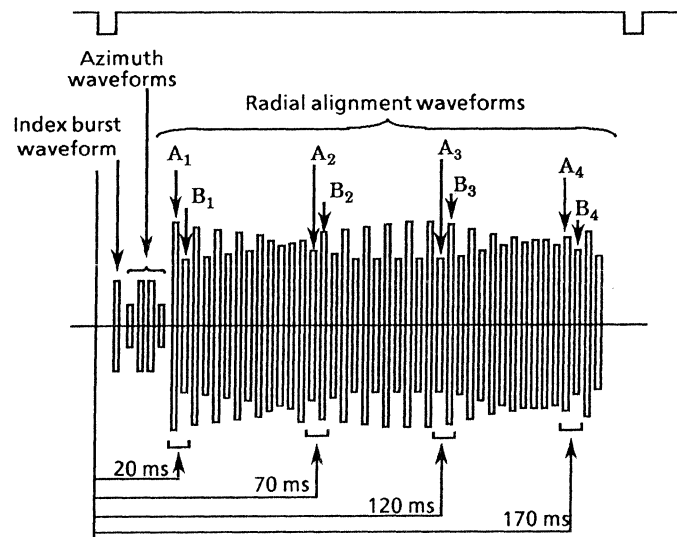

Fig. 9.3 Alignment Waveform (DAD)
- (4) Watch the output waveforms for sides 0 and 1. They should appear as shown in Fig. 9.3.
- (5) Measure the timing levels A₁ to A₄ and B₁ to B₄ in Fig. 9.3, and calculate the lobe ratio from the following formulas.